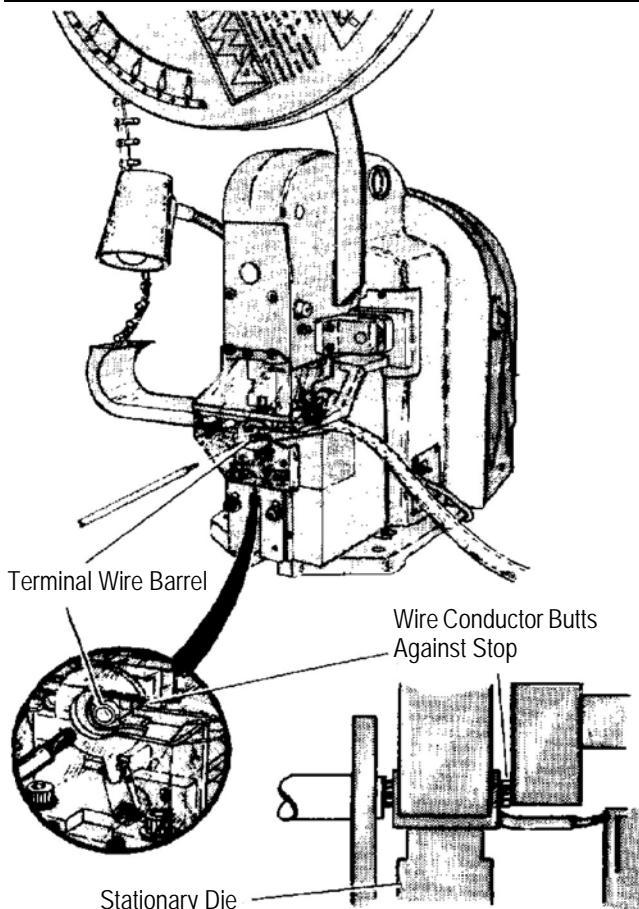
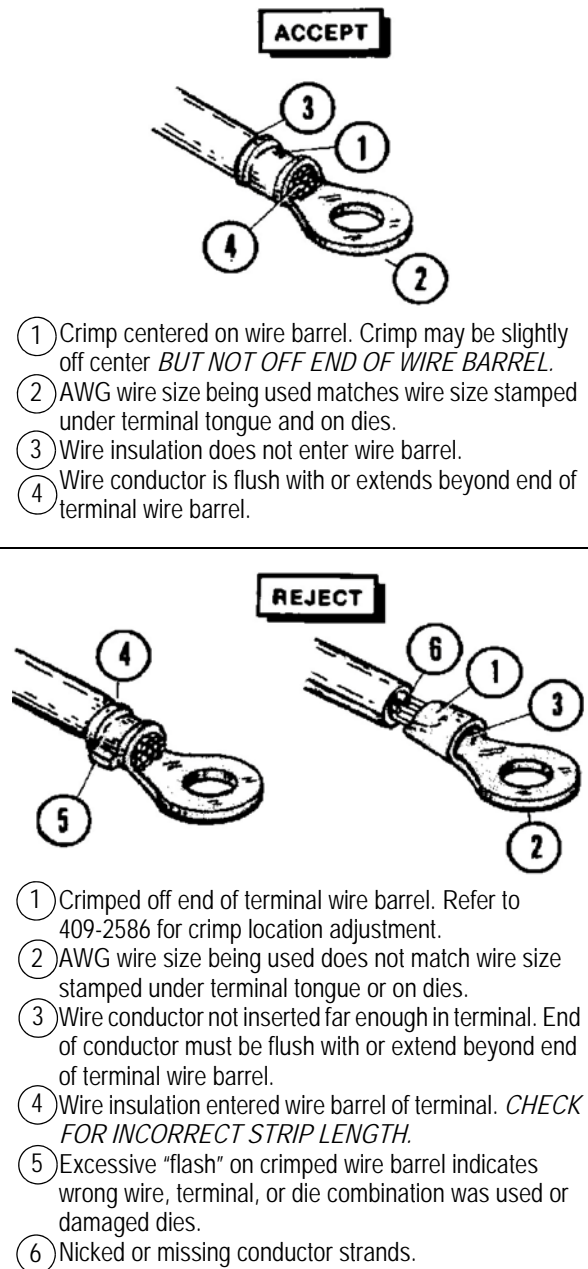

Figure 3
Figure 4
3. Insert stripped wire conductor into terminal wire barrel until it butts against the stop, see Figure 3.
6. Repeat steps (3) thru (5) for each terminal to be crimped.
7. Refer to Section 3 and Figure 4 for “Crimp Inspection” procedure.
Inspect crimped terminals by checking the features described in Figure 4.